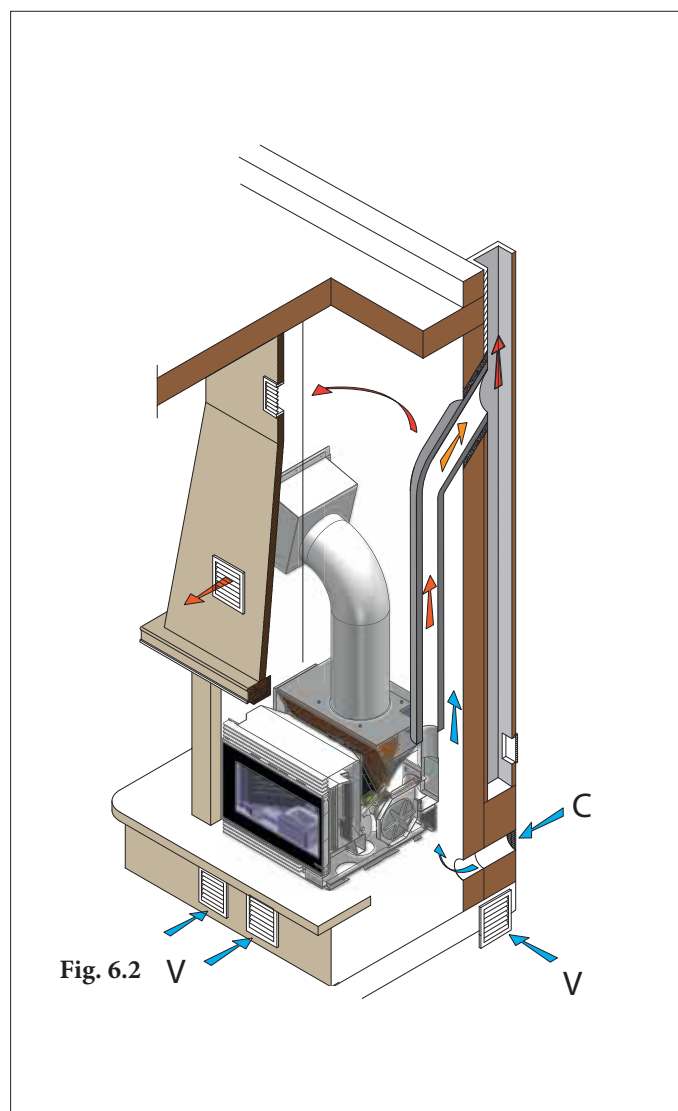

Fig. 6.2
The combustion air enters the stove compartment from the air intake (C) and is drawn into the combustion chamber through a duct located on the rear part of the stove (Fig. 6.2)